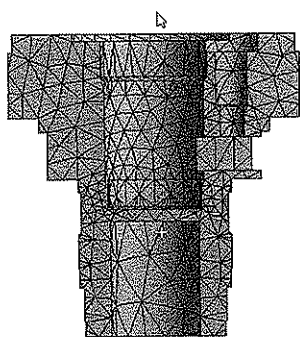
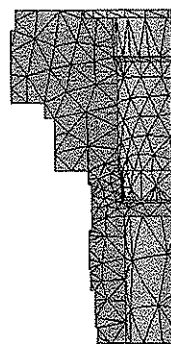

Figure 7-86 The model after orientation
Figure 7-87 Sectioned model
1. Right-click in the Graphics screen and then choose **View > Left** from the shortcut menu displayed; the model is oriented as shown in Figure 7-86.
3. In the Graphics screen, place the cursor as shown in Figure 7-86 and drag it in such a manner that the section of the model is created, as shown in Figure 7-87.